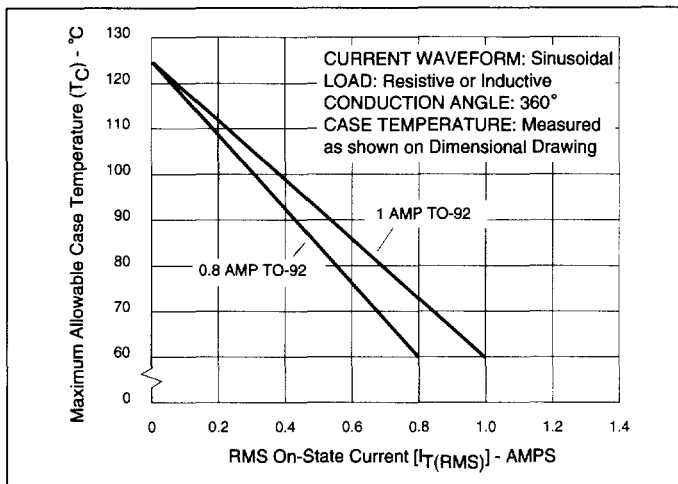
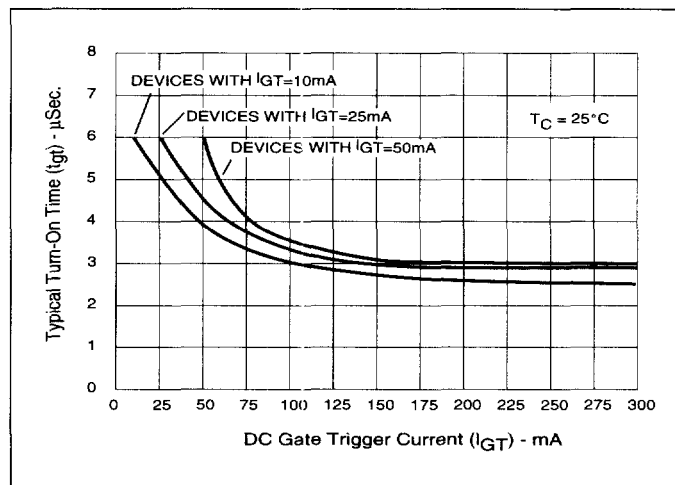

Figure 2.1 Maximum Allowable Case Temperature vs On-State Current (0.8 and 1.0 Amp)
Figure 2.15 Turn-On Time vs Gate Trigger Current (Typical)
- See Figures 2.1 through 2.7 for current rating at specific operating temperature.
- See Figure 2.15 for tgt vs IGT.
- Initial on-state current = 200mA(DC) for 1-10 amp devices, 400 mA(DC) for 15 amp to 25 amp devices.
- See Figures 2.1 through 2.6 for maximum allowable case temperature at maximum rated current.